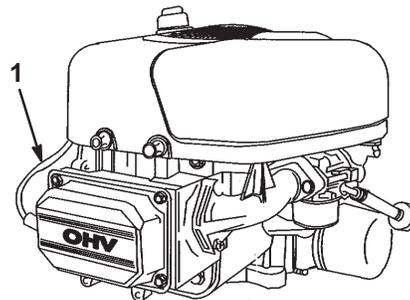

Figure 20
- Disconnect the wire from the spark plug (Fig. 20).
- Connect the wire to the spark plug (Fig. 20).